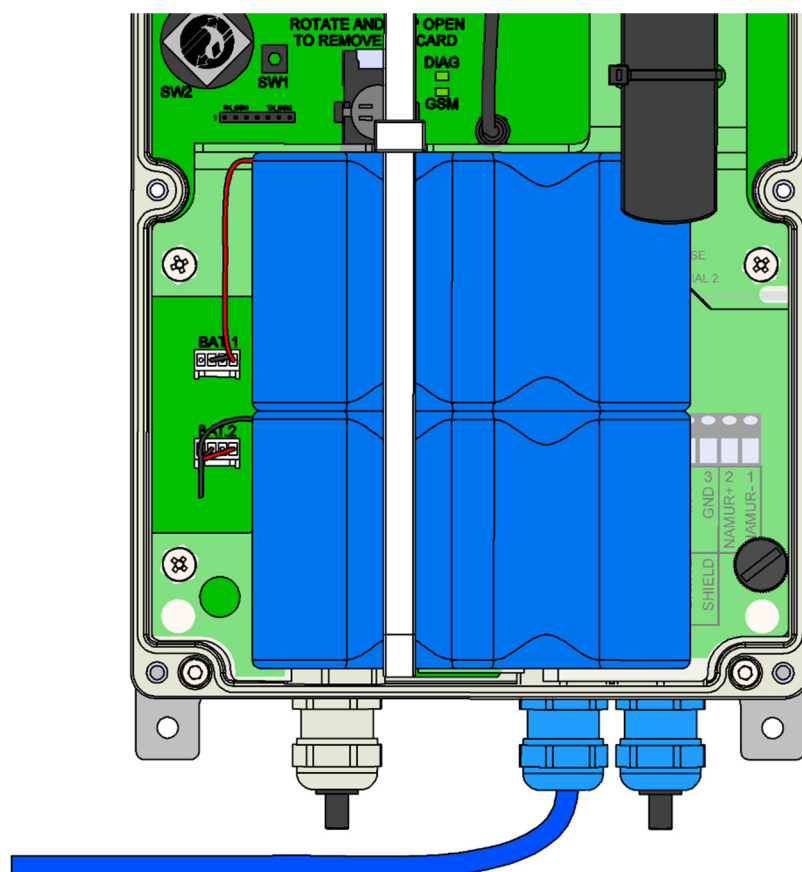

Figure 11. Battery pack(s) position
3. Place the cable tie in a way that it comes out on the side of the cable glands (figure 11)